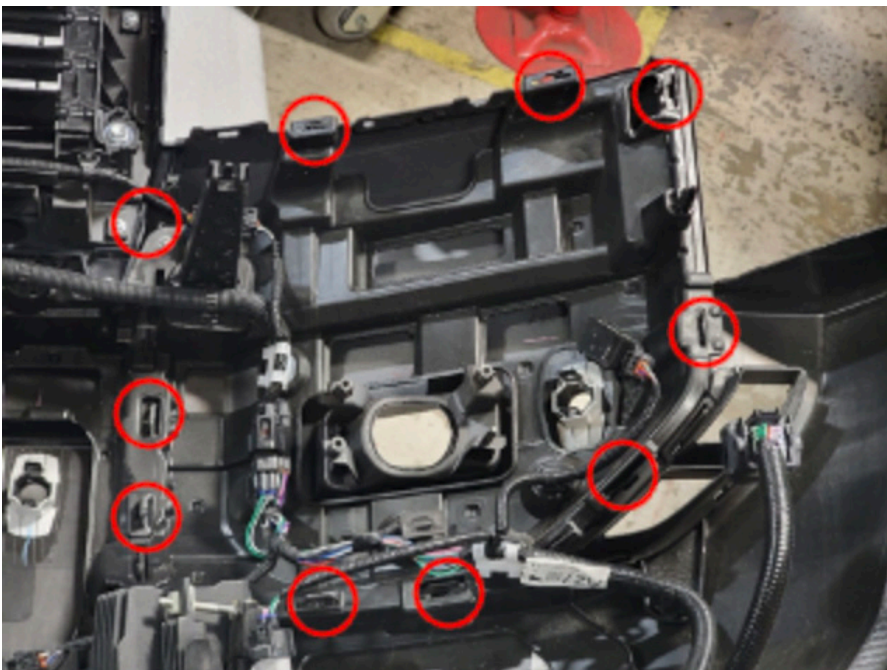

Figure 22.
18. Release the body clips from the inside of the bumper holding the fog light face and lower bumper faces onto the bumper frame. Figure 22.